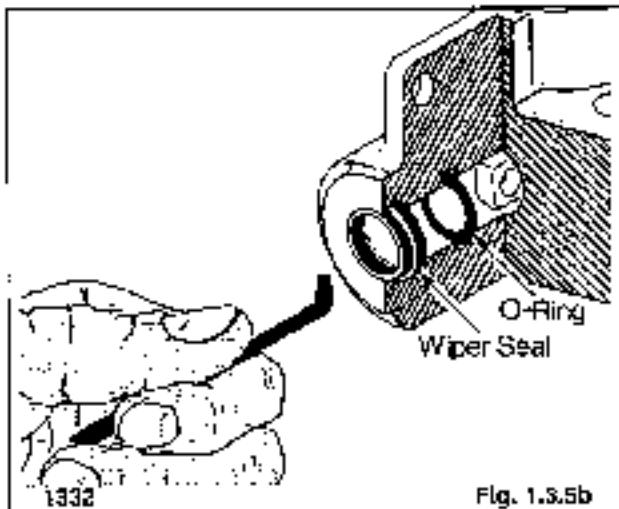

Fig. 1.3.5b
6. Remove the two detent plugs (16), detent springs (17) and detent balls (18) from the auxiliary spool end cap (14).
7. Remove the two end cap screws (19) from the auxiliary spool end cap (14). Remove the end cap.
8. Remove the detent spool (15), spring spacer (12), spring (11) and return washer (10) from the auxiliary spool (6). Remove the auxiliary spool (6).
9. Remove the two detent plugs (16), detent springs (17) and detent balls (18) from the boom spool end cap (14).
10. Remove the two end cap screws (19) from the boom spool end cap (14). Remove the boom spool end cap (14).
11. Remove the detent spool (15), spring spacer (12), spring (11) and return washer (10) from the boom spool (7). Remove the boom spool (7).
12. Remove and discard the six spool O-rings (9) and the spool wiper seals (8) from the spool bores (fig. 1.3.5b). Be careful not to scratch the spool bores.
4. Inspect the poppet seals inside the valve body for scarring (fig. 1.3.5b). Scoring on the poppet or poppet seat will allow leakage and may result in the boom or bucket being unable to hold their position when the apertures are in neutral or at initial spool movement.